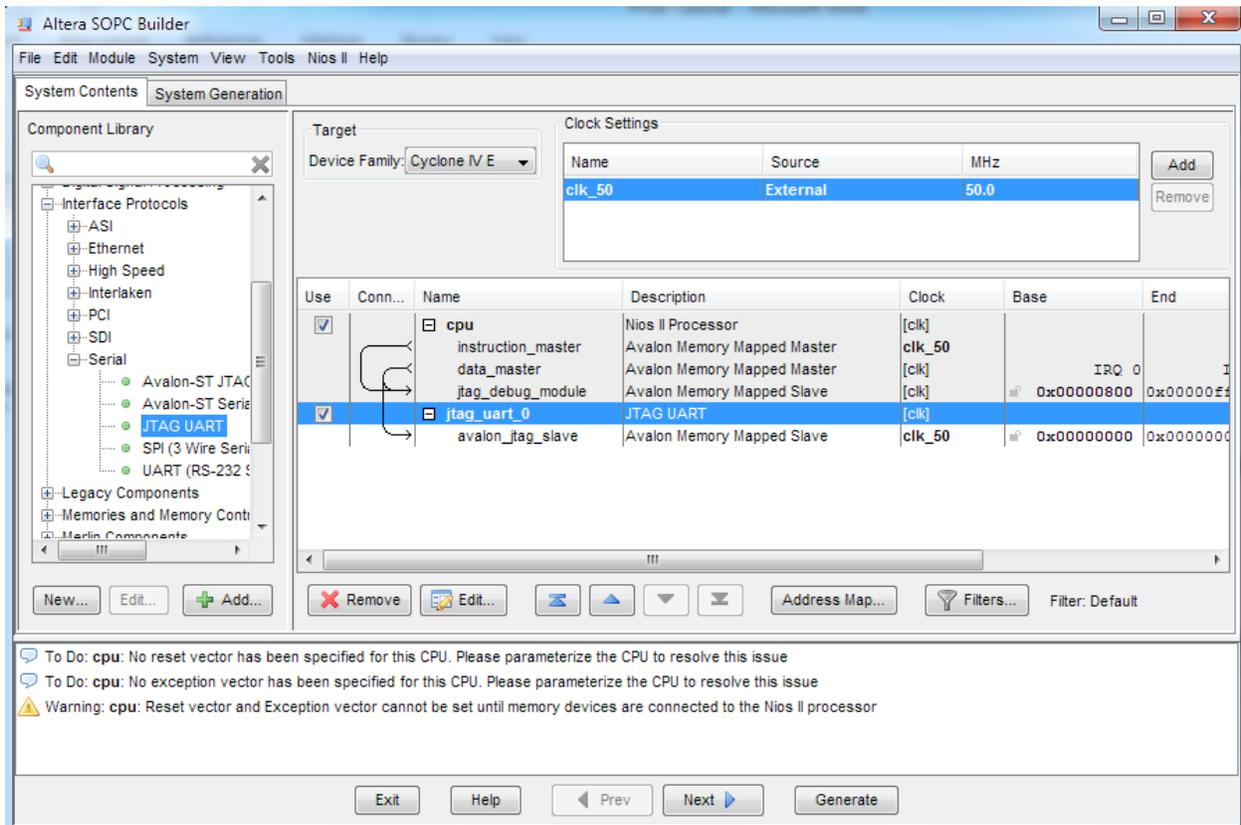

Figure 1-21 JTAG UART
12. Click Finish to close the wizard and return to the window as shown in Figure 1-21.